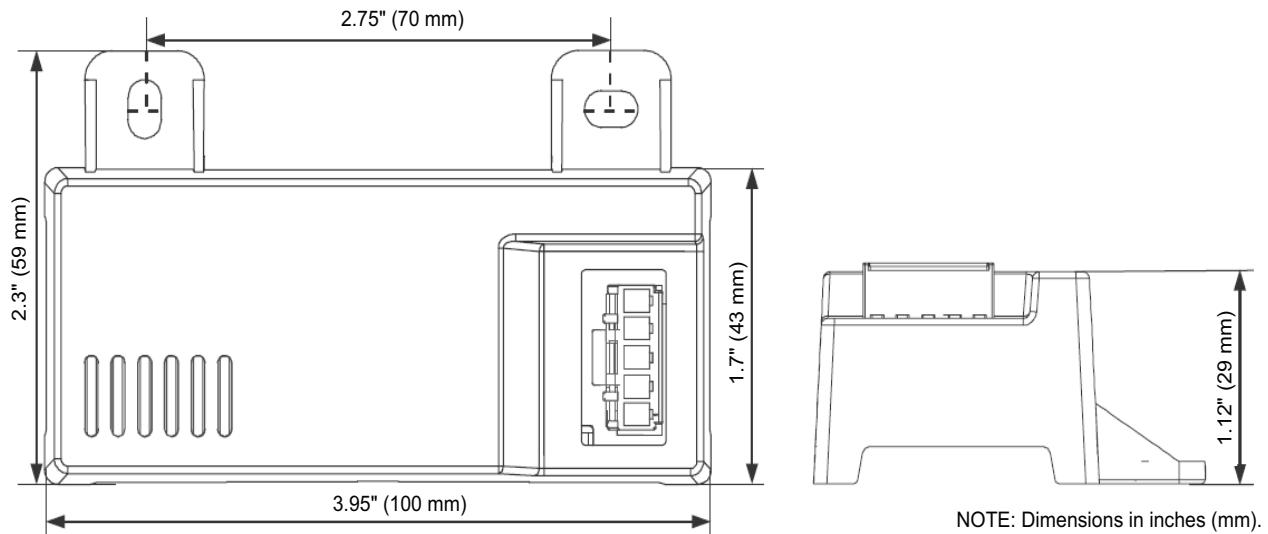
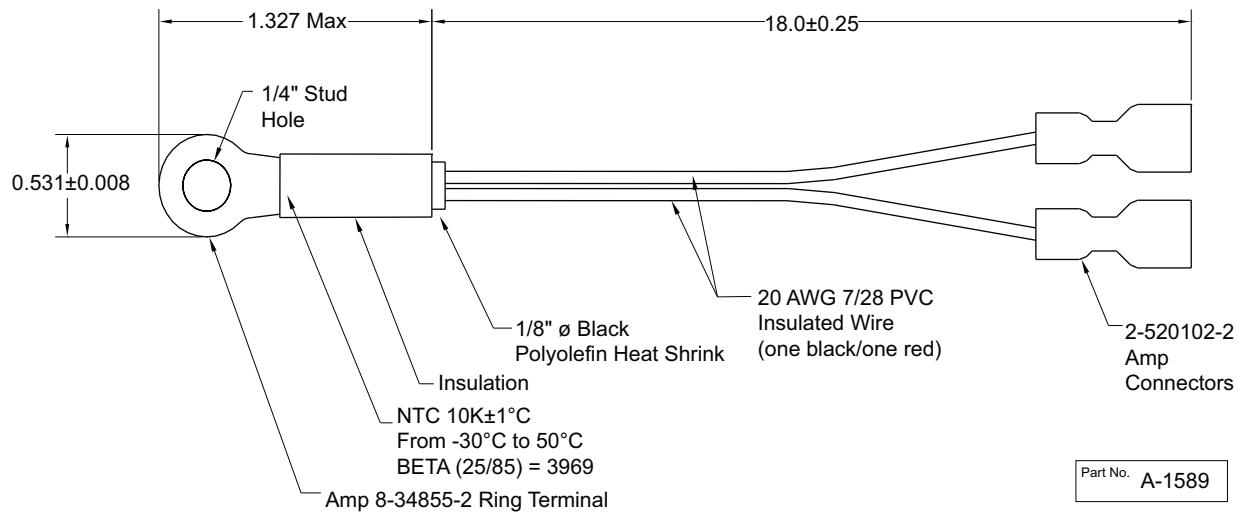
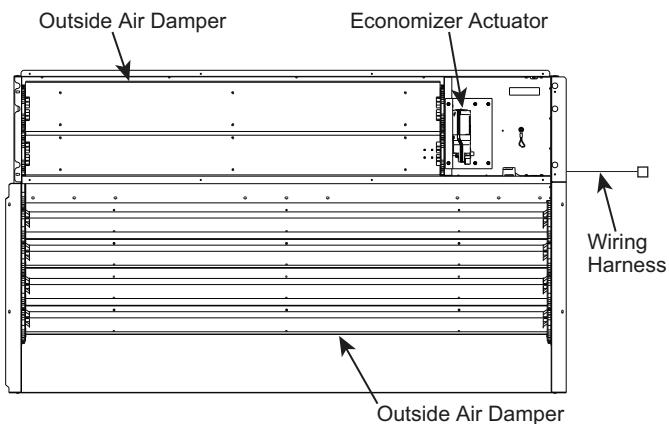

Fig. 76 — HH57LW001 Dimensional, Connection and Switching Information
Fig. 77 — HH79NZ039 Dry Bulb and Mixed Air Sensor Wiring
Fig. 78 — EconomizerONE System Component Locations
When using the HH57LW001 enthalpy sensor (see Fig. 76) for outside air changeover, the existing HH79NZ039 dry bulb sensor (see Fig. 77) must be removed. The enthalpy sensor will be mounted in the same location as the dry bulb sensor (see Fig. 78). When the enthalpy sensor's OA (Outside Air) temperature, enthalpy, and dew point are below their respective set points, outside air can be used for free cooling. When any of these are above their set point, free cooling will not be available. Enthalpy set points are configurable and create an enthalpy boundary according to the user's input. For additional details, see Fig. 79-80 and Table 24.
The optional enthalpy control sensor (P/N: HH57LW001) communicates with the POL224 economizer controller using the 5-wire harness, 48TC005213. The HH57LW001 sensor can be used as a single outside air enthalpy, a differential return enthalpy, or a differential return temperature sensor. Refer to the base unit control wiring diagrams found earlier in this book to wire the HH57LW001 enthalpy sensor for each option. See Fig. 76 and Table 26 on page 70 to locate the wiring terminals for each enthalpy control sensor.
Economizers are shipped standard with an HH79NZ039 outside air dry bulb sensor (refer to Fig. 77). System default setting (high temp limit) is 63°F (17°C) and has a range of 48°F to 80°F (9°C to 27°C). Sensor is factory installed on economizer.
If installing the optional HH57LW001 enthalpy sensor, the HH79NZ039 dry bulb outside air sensor must first be removed. Wire sensor to harness 48TC005213 and the (5) wires from the harness to the EconomizerONE harness in the return air chamber. Harness 48TC005213 has a 5-pin plug that connects directly to the HH57LW001 enthalpy sensor. Refer to the base unit control wiring diagrams earlier in this book for wiring connections. Refer to Fig. 76 and see Table 26.